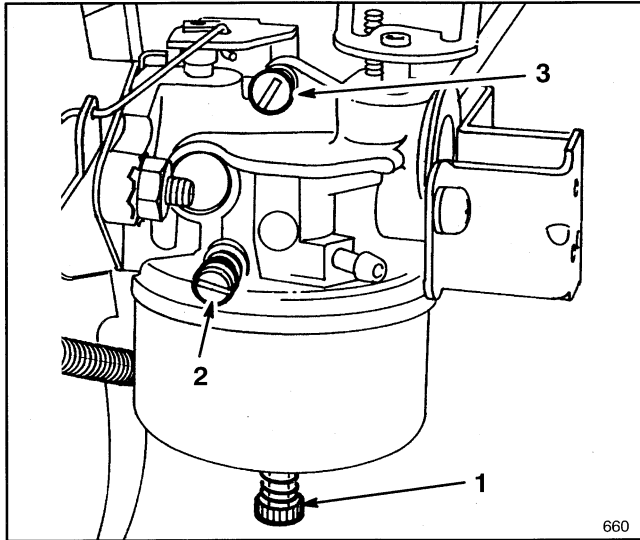

Figure 30
2. Power Adjusting Screw (Fig. 30)—Close screw by gently rotating it clockwise until a slight seating resistance is felt. Next, rotate power adjusting screw one full turn—360°—counterclockwise.
3. Idle Mixture Screw (Fig. 30)—Close screw by gently rotating it clockwise until a slight seating resistance is felt. Next, rotate idle mixture screw 1–1/2 full turns counterclockwise.
5. Rotate power adjusting screw (Fig. 30) clockwise—in—1/8 turn at a time until engine misses because of a lean gasoline mixture. Then rotate screw counterclockwise—out—1/8 turn at time until engine runs unevenly because of a rich gasoline mixture. Next, rotate power adjusting screw clockwise, back to the midpoint between the rich and lean settings, so engine runs smoothly.
7. Rotate idle mixture screw (Fig. 30) clockwise—in—1/8 turn at a time until engine begins to miss because of a lean mixture. Then rotate screw counterclockwise—out—1/8 turn at a time until engine runs unevenly because of rich mixture. Next, rotate idle mixture screw clockwise, back to the mid-point between rich and lean settings.
8. Again, rotate idle speed screw (Fig. 30) until engine idles at 1750 rpm.